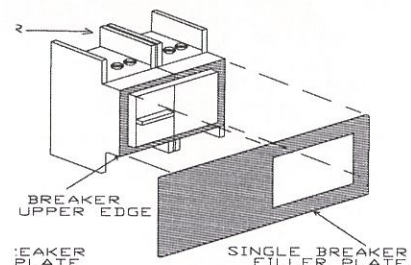

Fig. 3 - Filler plate installation
9. Install breaker filler plate provided by aligning the filler plate cut-out with upper section of the breaker (see fig. 3).
FILLER PLATE INSTALLATION INSTRUCTIONS (see fig. 3):